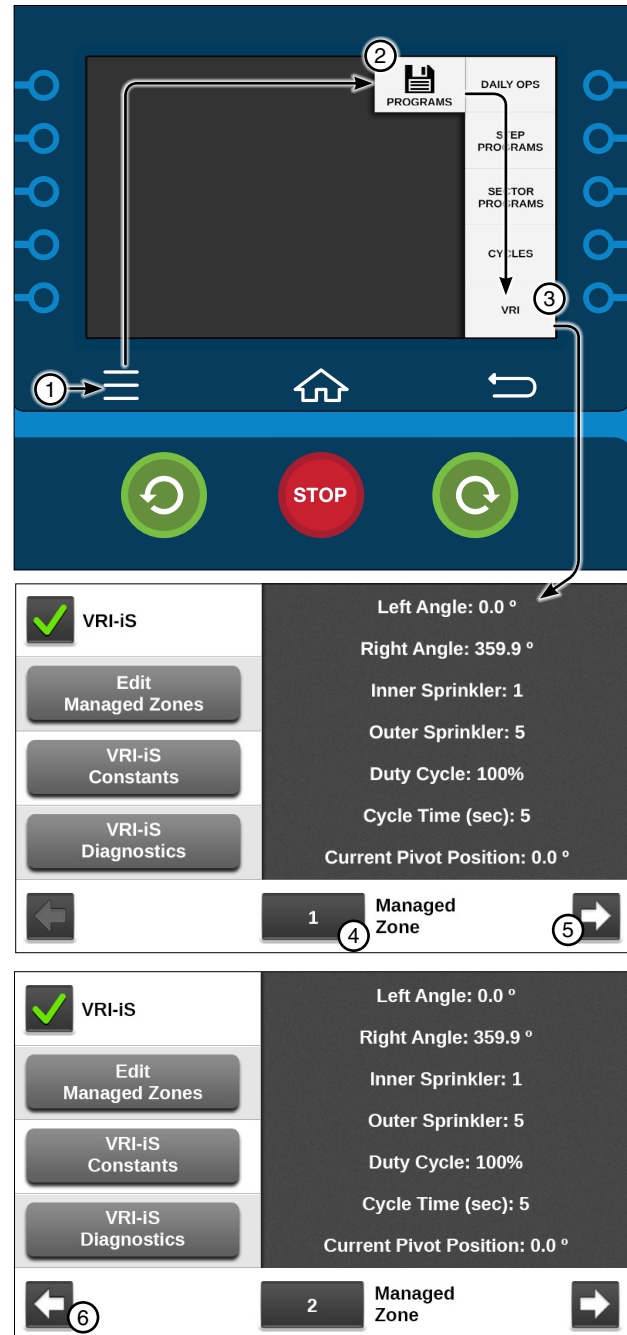

Figure 174-1 1. Menu 2. Programs 3. VRI 4. Managed Zone 5. Next 6. Previous
1. Push **Menu**, **Programs**, and **VRI** for the VRI-iS screen. Refer to Figure 174-1.